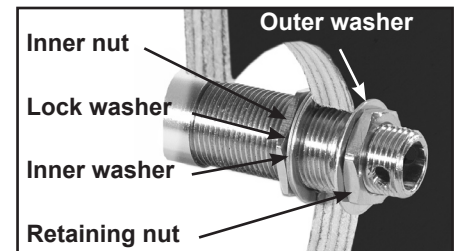

Figure 9c – Jack installation
3. Put the outer washer on the jack followed by the retaining nut (see figure 9c). Snug down the retaining nut finger-tight. The jack should be firmly held in place. If the jack is loose in the hole, loosen the retaining nut and adjust the inner nut so that the outer washer and retaining nut can fully seat against the surface of the harp.